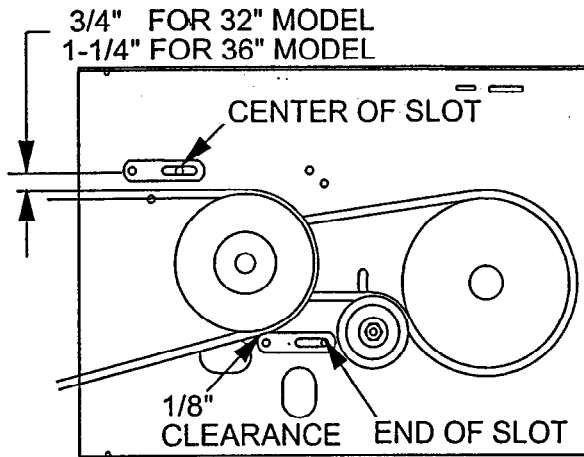

FIG. 20
e) adjustment (See Figures 20, and 21). Adjust as necessary.